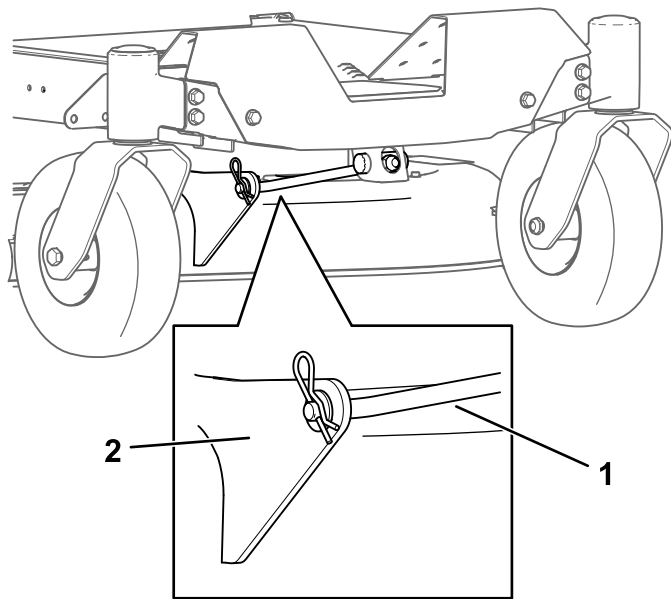

Figure 67
- Remove the hairpin cotter from the front support rod, and remove the rod from the deck bracket (Figure 67).
8. Attach the front support rod to the mower deck with the clevis pin and hairpin cotter (Figure 67).